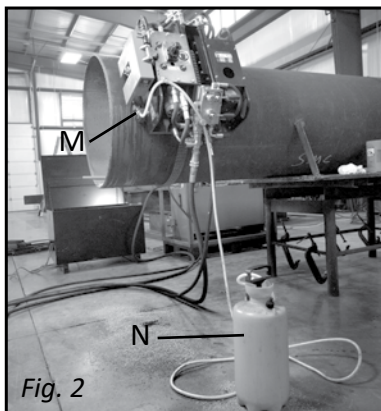

Fig. 2
3. Connect the Double Mist Lubrication System (M, Fig. 2) to the Coolant Container (N). Use a synthetic coolant oil type BIO/42 EP or similar.